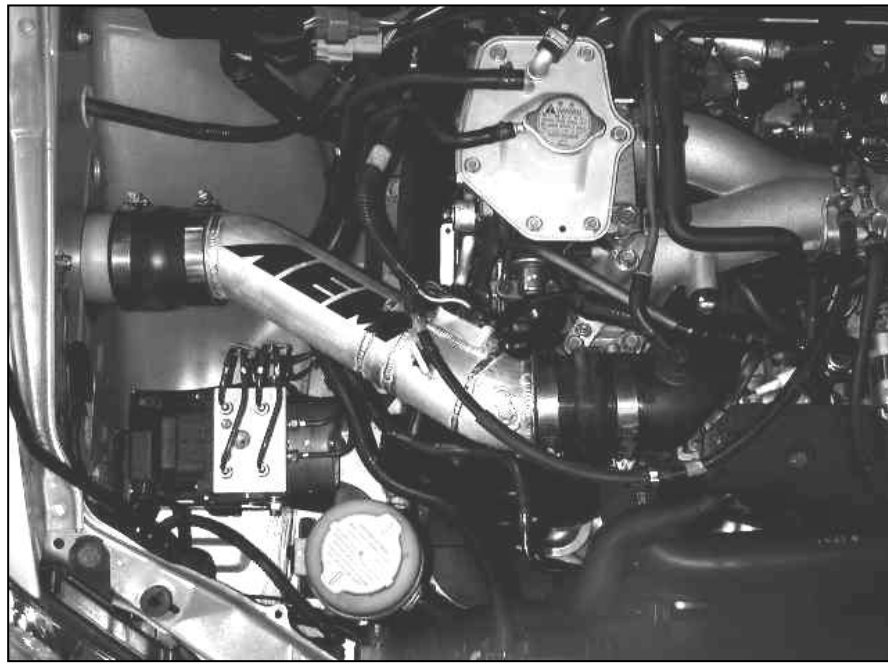

Fig. 15
- r. Position the inlet pipes for proper fitment and secure hardware. Once installed the AEM® intake system should look similar to figure 15.